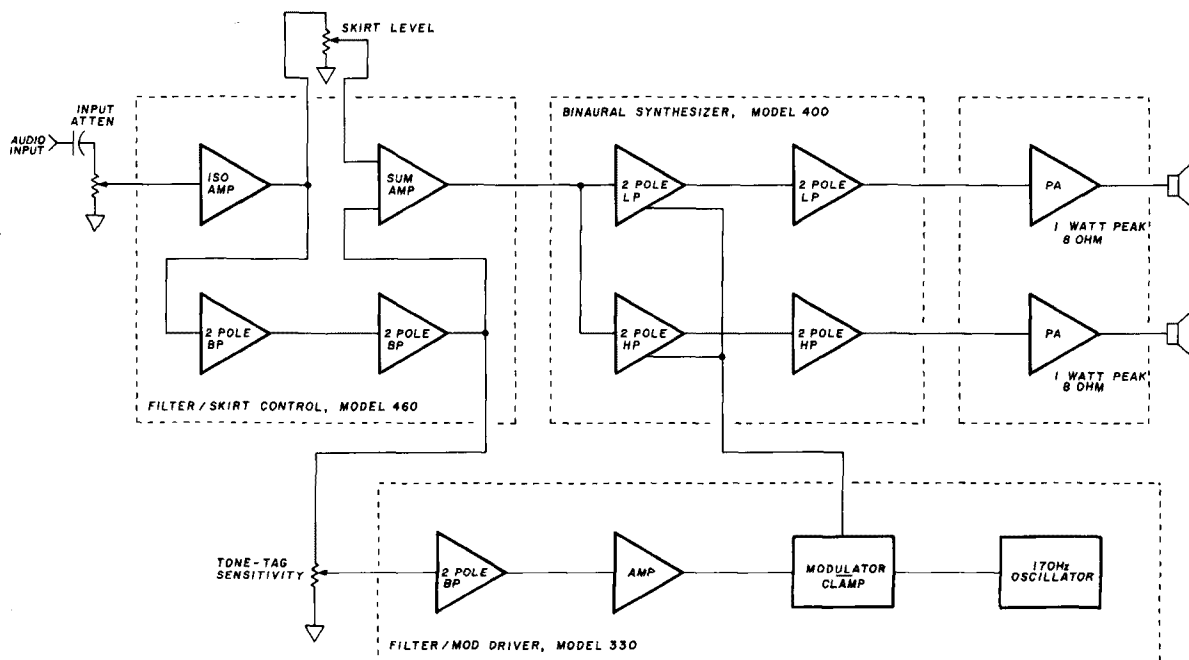

fig. 3. Complete Model 1100 system including Tone-Tag, binaural synthesizer, and 4-pole, 300-Hz input filter.
A tone-modulating oscillator, U1, runs at approximately 170 Hz (this frequency is between the 4th and 5th subharmonics of the 750-Hz listening frequency to avoid harmonic beat notes). Under no-signal conditions, the modulating oscillator's asymmetrical square wave is inhibited by clamp CR3. The clamp is held in conduction by a quiescent -0.7 volt output from op amp U3. Divider R3, R4 inhibits modulator diodes CR1, CR2 when strong signals pass through the system above and below 750 Hz. When a nominal 750-Hz signal appears, it is amplified and filtered by U2, a narrow-band filter, then fed to amplifier U3. Positive half cycles appearing at U3 output periodically open the clamp CR3, which allows samples of the 170-Hz oscillator to do its work on the modulation diodes. In this way, only those signals in the filter passband near crossover are modulated — a method that is as effective as it is simple. Fig. 3 shows a
3. J.C. Steinberg and W.B. Snow, "Physical Factors," *Bell System Technical Journal*, Vol. 13, No. 2, fig. 3, page 252, 1934, Reprinted in part in *Reference Data for Radio Engineers*, 5th Edition, page 35-22.